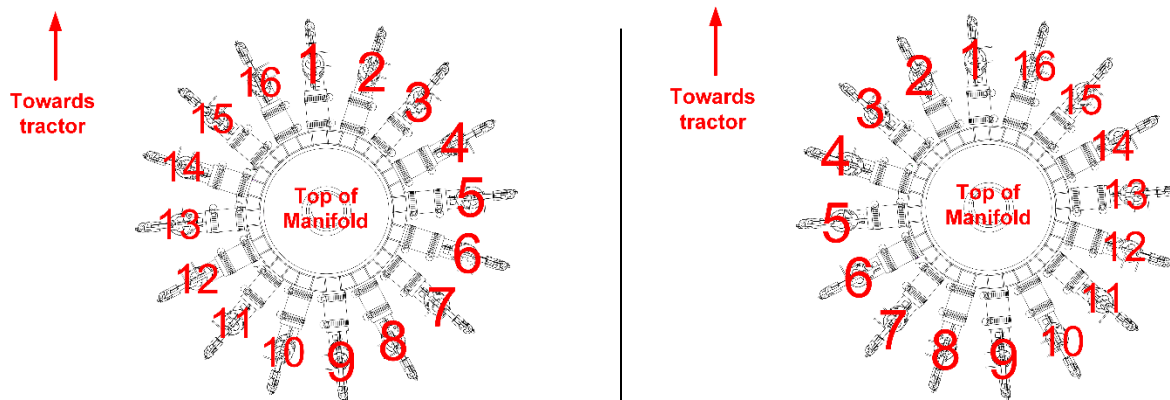

Figure 15: Order to connect flow sensors to ECU
2. Remove and discard the cap at the end of the auditory hose (if it has a cap) of the run that is closest to the tractor when facing the back of the tractor. This run is labeled “1” in Figure 15).
6. Continue removing caps from the ends of the auditory hoses, running them through the top of the ECU bracket, and attaching them to the proper ECU port, working clockwise around the manifold as shown in Figure 15.